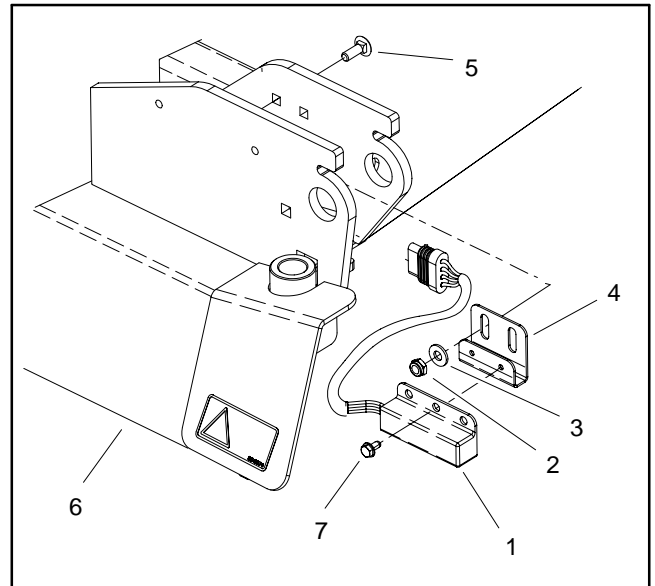

Figure 7
3. Loosen two (2) lock nuts that secure switch bracket to center cutting deck (Fig. 7).